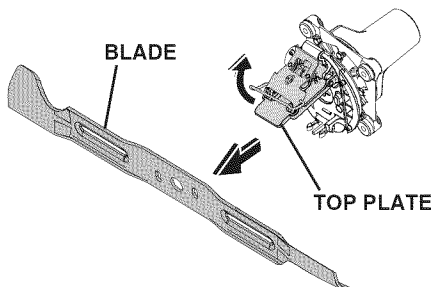

Fig. 17
- Open the top plate and remove blade. (See Fig. 17.)